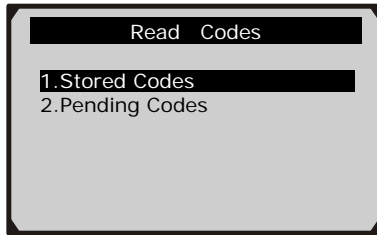

Figure 6.4
- 2) Use the **UP/DOWN** scroll button to select **Stored Codes** or **Pending Codes** from the **Read Codes** menu and press the **OK** button. (Figure 6.4 )